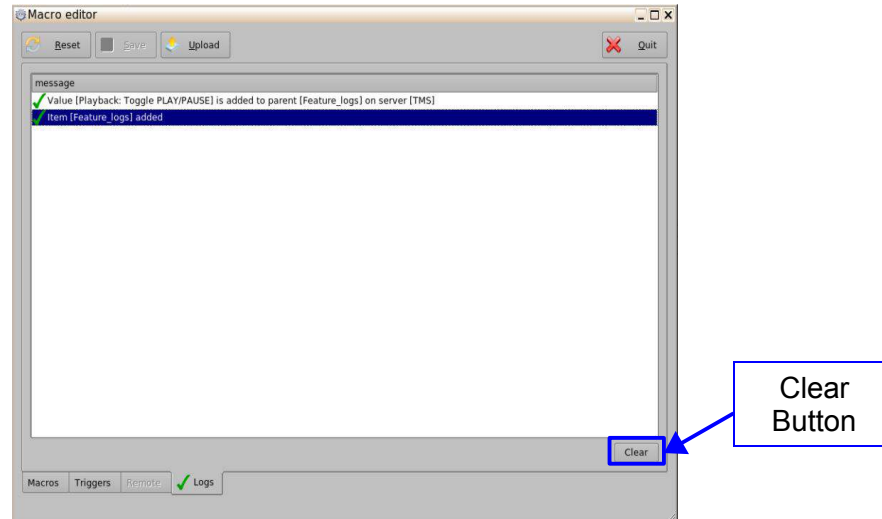

Figure 34: Macro Editor Window – Logs Tab
- Click on the Clear button (Figure 34).